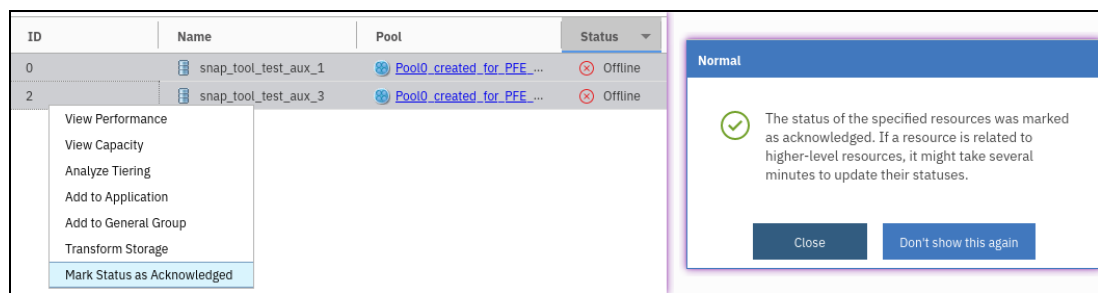

Figure 9-76 Marking the status as acknowledged
In this specific case, the offline state is expected because the volumes are auxiliary volumes of *inconsistent stopped* Global Mirror (GM) relationships. Therefore, the status can be marked as *acknowledged*, as shown in Figure 9-76.